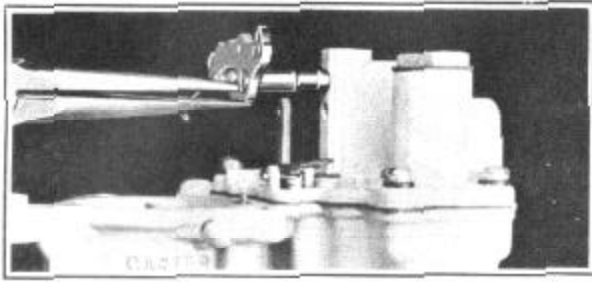

FIGURE 37
18. Install pump arm and countershaft assembly, Figure 37. Install connector link on pump shaft in lower hole in pump arm.